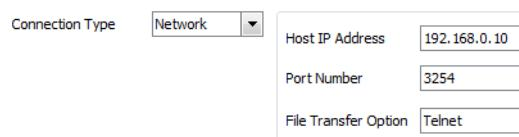

Figure 148 RTAC Connection
Step 17. Select the **Connection** tab, choose **Network** as the Connection Type, and enter the **Host IP Address** and **Port Number** of the RTAC, as shown in *Figure 148*. The Port Number should match the **Server IP Port** configured in ACSELERATOR RTAC in *Step 4* of *Part 1: Configuration in ACSELERATOR RTAC*.